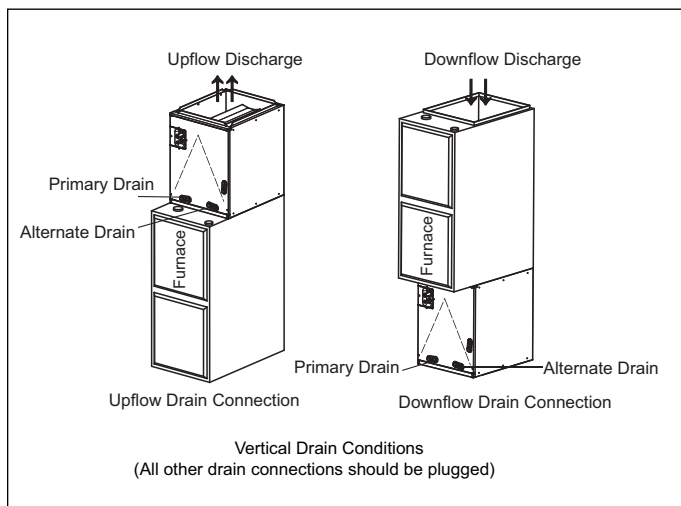

Figure 6
1. See Fig.6 & 7 for coil installation and drain connection.
**i** See Figure 6 & 7. In case that coil and furnace sizes are not matched, use proper size of sheet metal or other material to fill the gap and seal the gap to prevent air leak